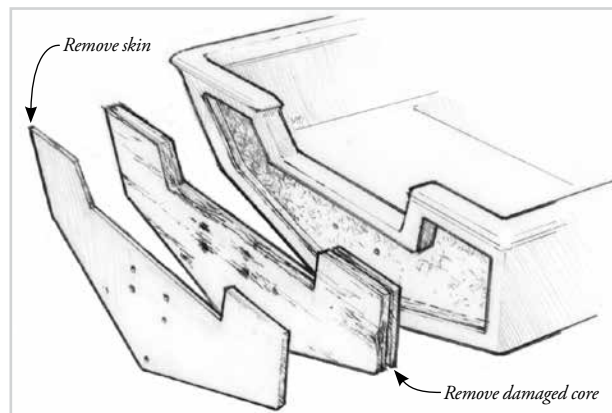

Figure 5-9 Cut through the outer skin at the perimeter of the core. Remove the skin and the core if it is delaminated or rotted.
4. Remove the damaged plywood core (Figure 5-9). Use a chisel or whatever combination of tools you need to remove all damaged material. The plywood core in the perimeter and corners of the transom will be the biggest challenge. If necessary, use large drill bits to carefully weaken and re-move stubborn areas. Rotary rasps can also be effective. Home made tools similar to a grub hoe or an adz can be used to remove the stubborn perimeter areas. Shave all traces of the core material from the inner skin, being careful not to damage the skin. Make any necessary repairs to the inner skin. Sand the skin to prepare for bonding.